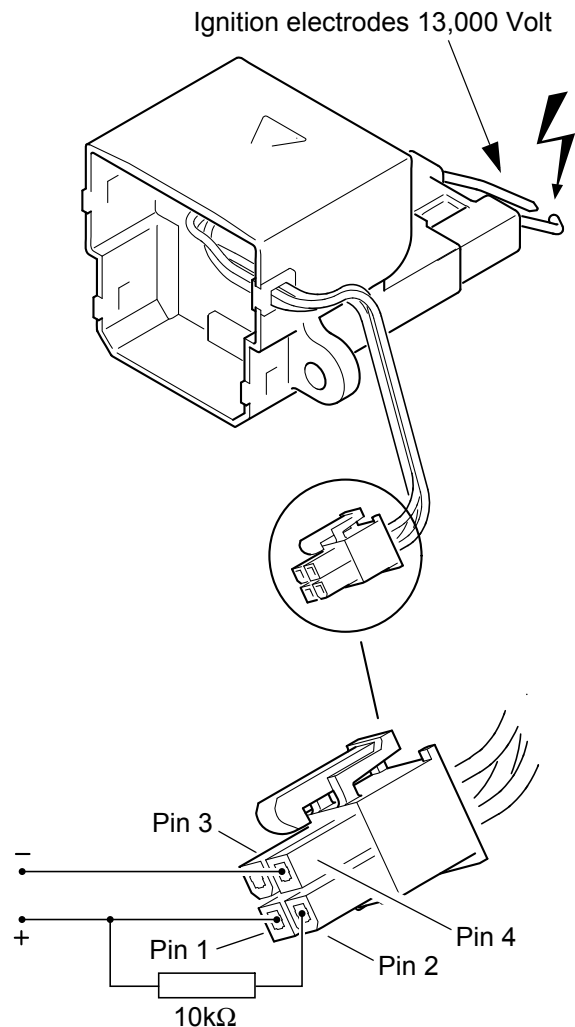

Fig. 507
- Apply 24V direct voltage according to Fig. 507 (10kOhm on SE input).